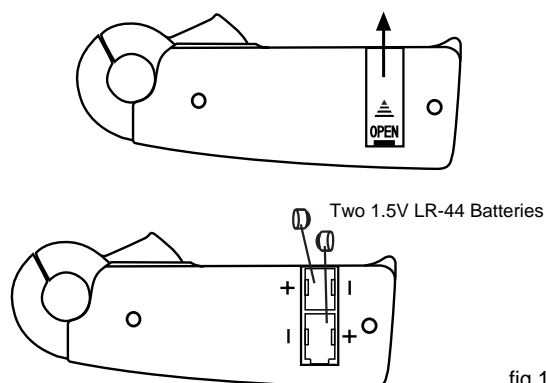

fig.13
6. Replace Battery Case Lid. Refer to the figure 13.